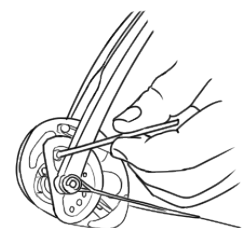

Fig. 2
2. Using a hex wrench, loosen and remove the draw length screw on the inner-cam module. Be careful not to misplace the nut on the bottom of the adjustment module. (Fig. 2)